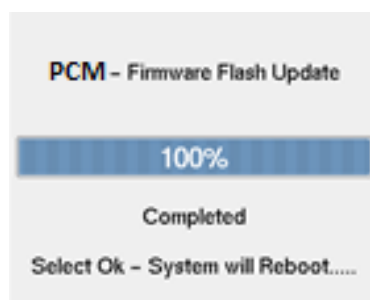

Figure 16 PCM Update Progress
19. The unit will display a progression bar during the installation (Fig. 16).